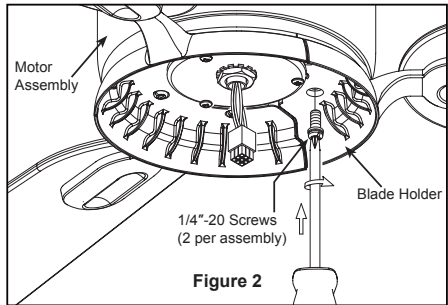

Figure 2
2. Secure the blade holders to the bottom of the motor assembly using the 1/4"-20 screws from the hardware bag. (Figure 2)